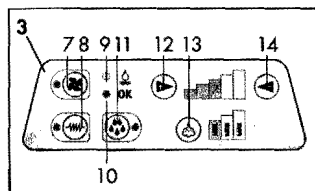

Fig. 11
- Adjust the vacuuming power via the vacuum power buttons (12) (14) (increase/reduce vacuum power) Fig 11.
- Switch on the machine at the main switch (2) and push the boiler heating button (8). As soon as the 'operation ready' control lamp (10) illuminates, you can work with steam. Fig. 11.
- Adjust the steam volume via the button (13) on the control panel (3). Fig 11.
- Pour water or detergent into the tank (4) as described in 'Preparing the appliance ready for use'.
- Switch on the machine at the main switch (2), push the injection/extraction button (11) and the vacuum button (7). Fig. 11.
- Adjust the vacuuming power via the vacuum power buttons (12) (14) (increase/reduce vacuum power). Fig. 11.
- Push the boiler heating button (8). As soon as the green control lamp (operation ready) (10) is illuminated, you can work with steam.
- Push the injection/extraction button (11) and the vacuum button (7).
- Adjust the steam volume via the button (13); Adjust the vacuuming power via the vacuum power buttons (12) (14) (increase/reduce vacuum power). Fig. 11.